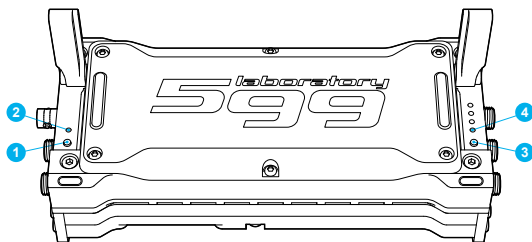

Fig. 5
1. To activate the battery pack, press and hold the power button (1, Fig. 5) for 1-2 seconds until the activity indicator (2) lights up.
To check the battery charge level, press the button (3, Fig. 5). The four-segment indicator (4) will display the charge level in percent: 25%, 50%, 75% or 100%.